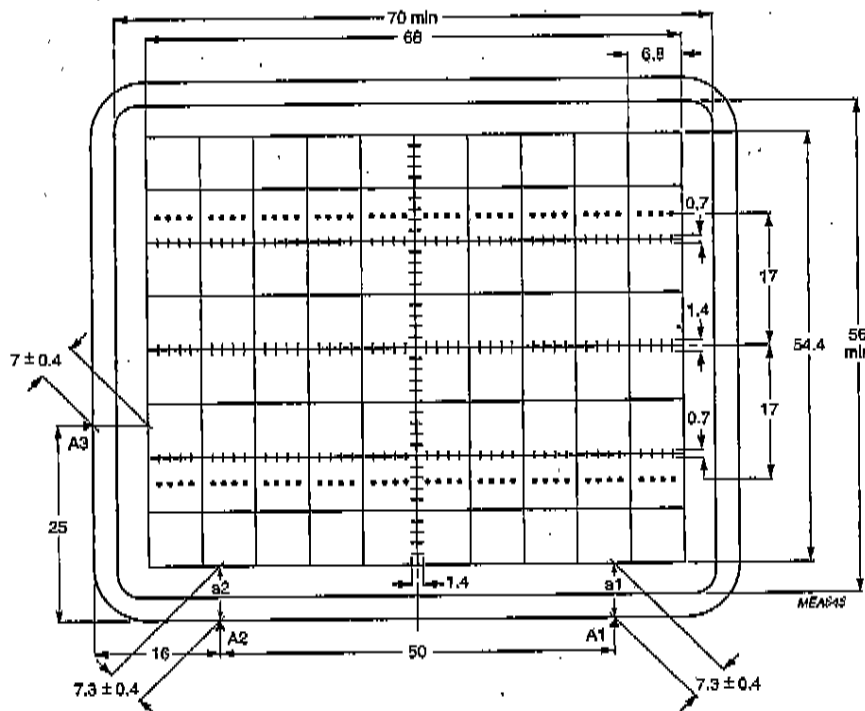

Fig.4 Front view of the tube with internal graticule, type 125.
The tube can be mounted in any position. It must not be supported by the socket and not by the base region alone. The reference points (A1, A2 and A3) on adjoining edges of the faceplate (see Fig.4) enable the tube to be positioned accurately in the front panel, for optimum alignment of the internal graticule with respect to the bezel.
The internal graticule is aligned with the faceplate by using the faceplate reference points, see Fig.4 and note 1.
1. Because the frit seal is visible through the faceplate, and is not necessarily aligned with the internal graticule, application of an external passe-partout with an open area of max. 70 mm x 56 mm is recommended. The internal graticule is aligned with the faceplate by using the faceplate reference points (see Fig.4).